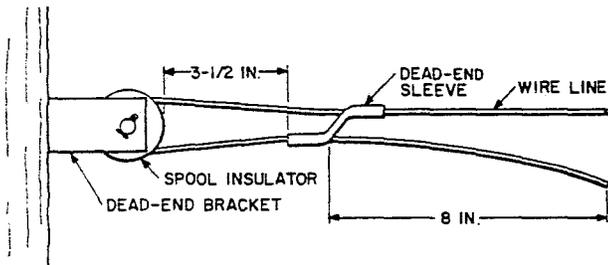

Fig. 1—Dead-End Sleeve Placed
- (1) Select a dead-end sleeve in accordance with Table A.
- (2) Clean the line wire with abrasive cloth and pass a sufficient length of the line wire through either end of the dead-end sleeve and place the wire in the wire groove of an insulator.
- (3) Bend the line wire around the insulator and pass the end of the wire through the empty end of the dead-end sleeve (Fig. 1).